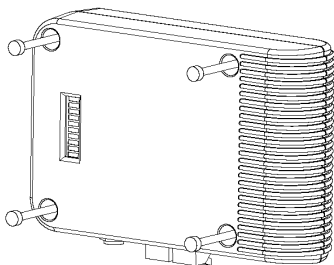

Fig. 4 - Mounting the Control Module to the wall
- Hold the ScaleRID Control Module in place and insert the supplied screws through the holes in the module, per *Fig. 4* below.